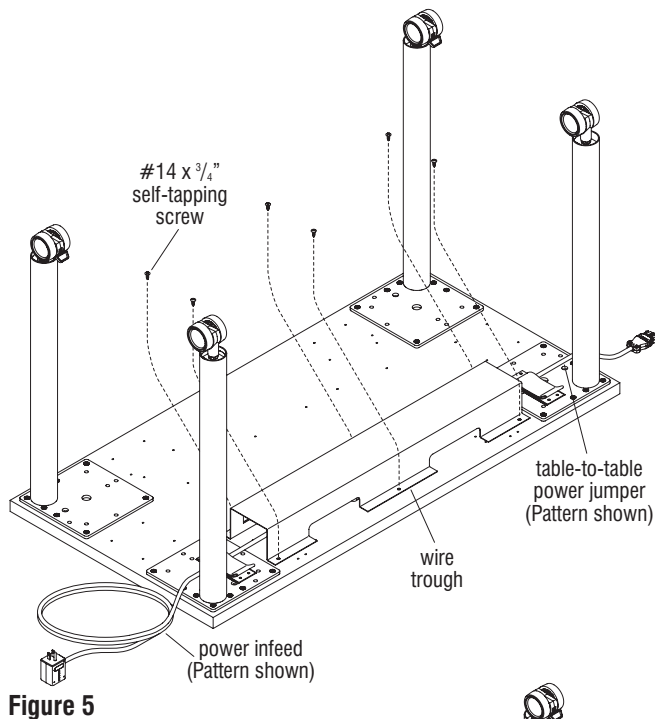

Figure 5
1. Holding contents inside the wire troughs, carefully turn them over 180-degrees, (upside-down) onto the tabletops, and over the power module(s). Adjust the power infeed, the connectors and cables in the trough so the trough lays flat. Align the wire trough mounting holes with the pre-drilled holes in the underside of the tabletop, and secure wire trough to tabletop using six #14 x 3/4" self-tapping screws. Do not over-tighten (Figures 5 & 6).